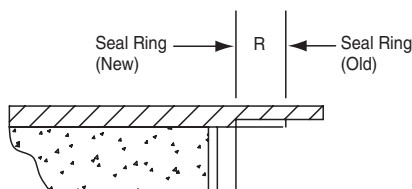

Figure 1. Seal ring wear indicator shoulder
Check the rotary joint regularly to determine seal ring (6) wear. As shown in Figure 1, the shoulder of the nipple will be exposed as seal ring wear occurs. Should the seal ring (6) wear away completely, the metal nipple can wear into the wear plate and eventually through it. This will result in a significant leak and create a hazardous condition. Lack of attention may require replacement of the entire joint instead of just the seal ring.
Locate the shoulder that has been machined into the joint nipple. See Figure 1.